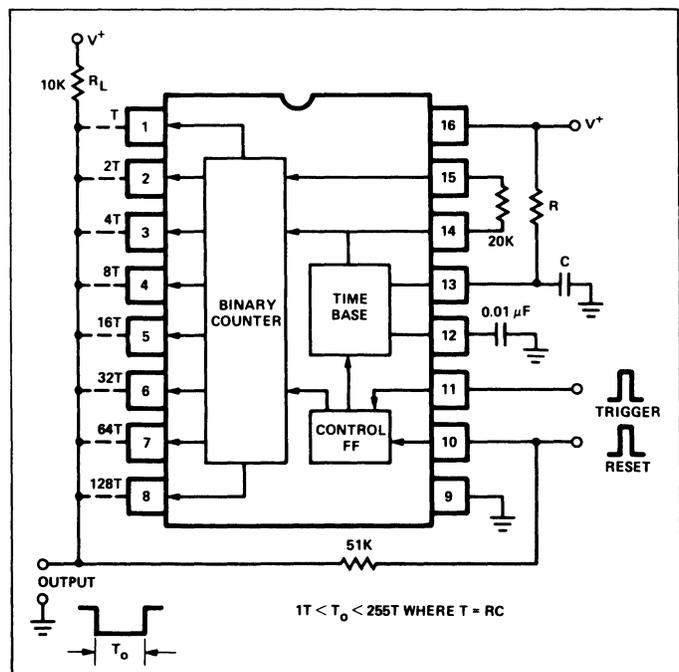

Figure 18. Circuit for Monostable Operation ( $T_0 = NRC$  where  $1 \leq N \leq 255$ )
In precision timing applications, the XR-2240 is used in its monostable or "self-resetting" mode. The generalized circuit connection for this application is shown in Figure 18.
**PROGRAMMING OF COUNTER OUTPUTS:** The binary counter outputs (pins 1 through 8) are open-collector type stages and can be shorted together to a common pull-up resistor to form a "wired-or" connection where the combined output will be "low" as long as any one of the outputs is low. In this manner, the time delays associated with each counter output can be summed by simply shorting them together to a common output bus as shown in Figure 18. For example, if only pin 6 is connected to the output and the rest left open, the total duration of the timing cycle,  $T_O$ , would be  $32T$ . Similarly, if pins 1, 5, and 6 were shorted to the output bus, the total time delay would be  $T_O = (1+16+32)T = 49T$ . In this manner, by proper choice of counter terminals connected to the output bus, one can program the timing cycle to be:  $1T \leq T_O \leq 255T$ .